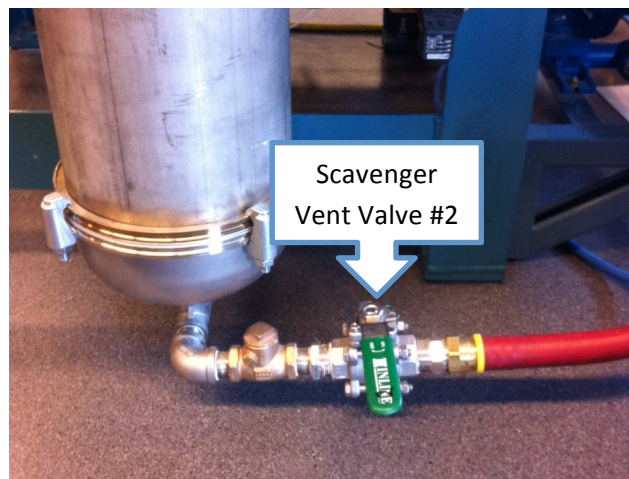

Figure 21: Scavenger Vent Valve #2
2. Open Scavenger Vent Valve #2 located at the bottom of the scavenger tank. See figure 21